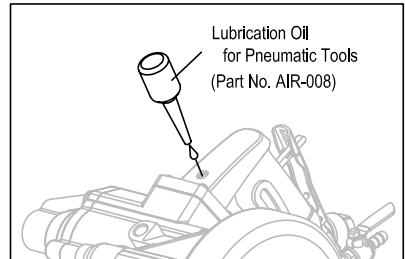

Figure 2
3. Add 5-6 drops of the Rust Inhibitor Oil into the oil port. (See Fig. 2)